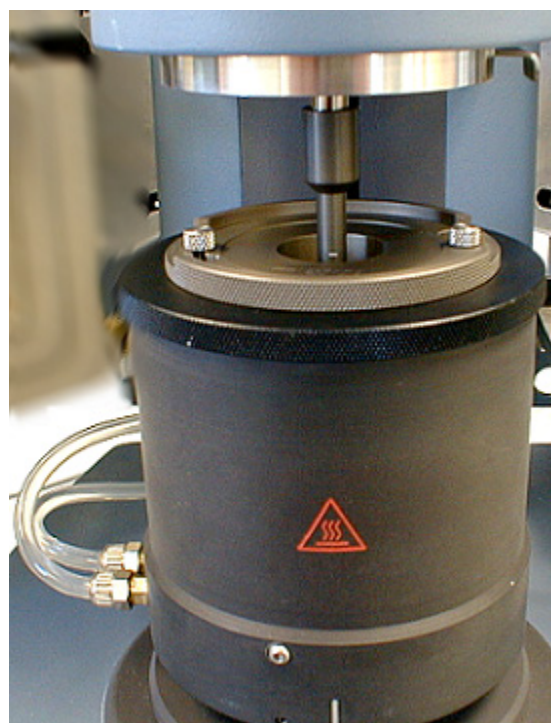

Figure 5.13
7. Lower the rheometer head until the datum mark on the shaft of the rotor is level with the top of the cup as shown in Figure 5.13 to the right. You can now set up the measuring geometry in the rheometer software and set the gap explained in the online help.